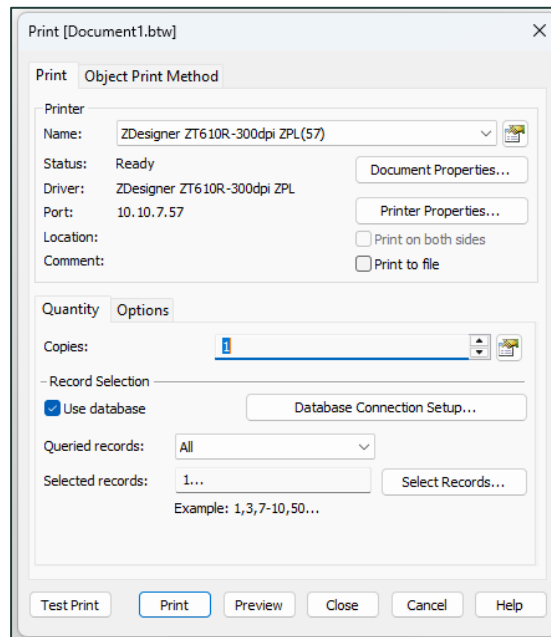

Figure 19: Print window
13. Print your labels with your serialized Retail ID QR codes added – **See Figure 19.**